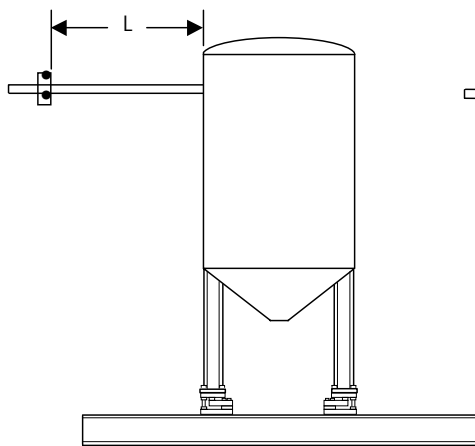
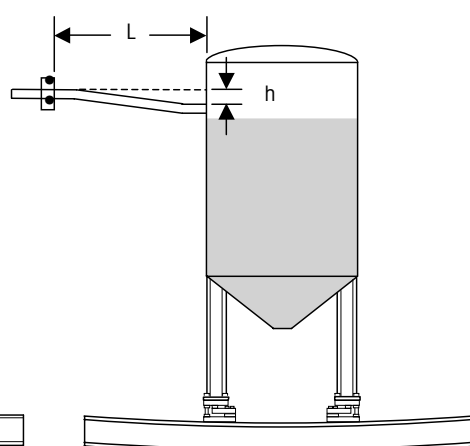

Figure 5-12a: Empty Tank
Figure 5-12b: Full Tank
Figure 5-12a shows a tank mounted on weigh modules and supported by an I-beam. A pipe is connected to the tank and rigidly clamped to another structure at a distance (L) from the tank. When the tank is empty, the pipe remains in a horizontal position and exerts no force on the tank. When the tank is full (see Figure 5-12b), it moves downward because of the deflection of the load cell and the I-beam. This pulls the pipe downward the same distance that the tank deflects (Δh). The pipe acts like a guided cantilever beam and exerts an upward force on the tank, affecting weight measurements.